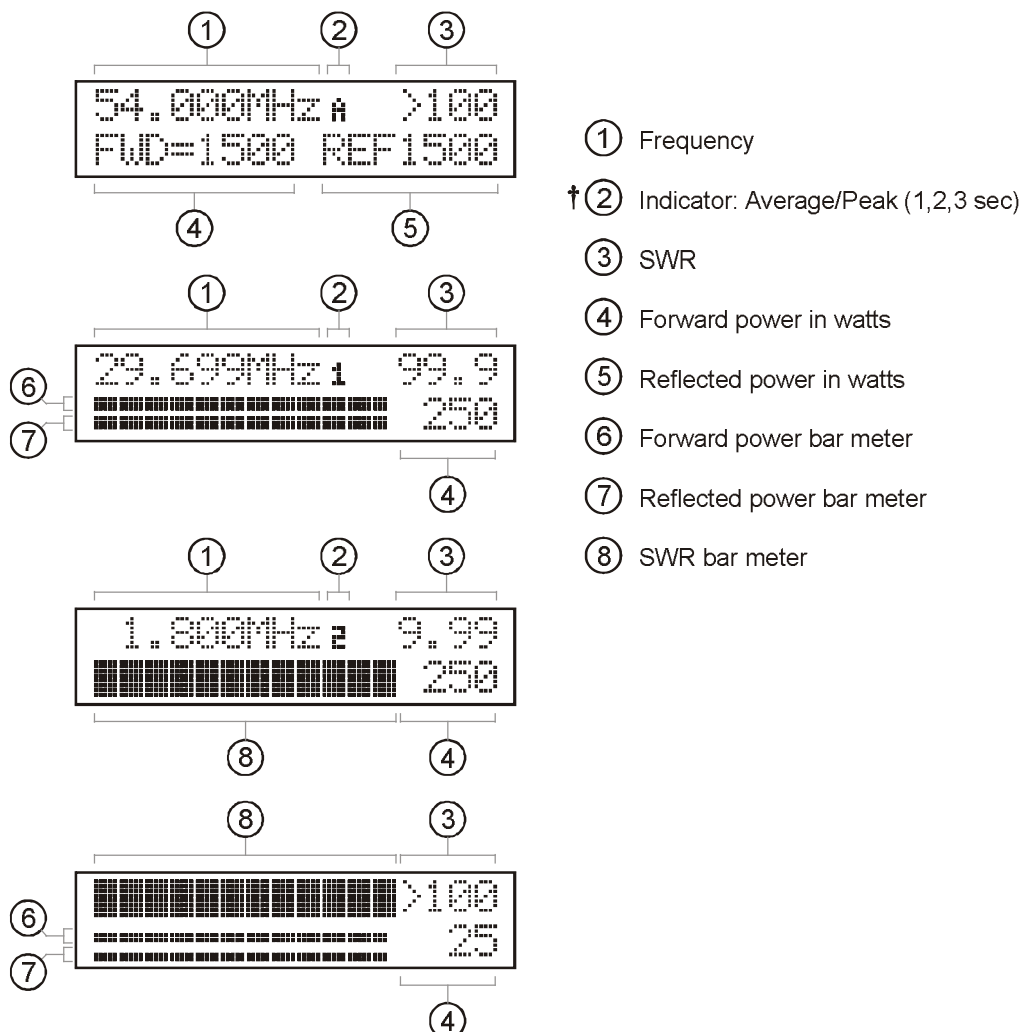

Figure 7. Main Mode Menu Display.
- **LCD Display:** A 2-line by 16-character alphanumeric display with backlight. It displays the unit's various menus and status. The display contrast can be adjusted by the LCD contrast control on the front panel. Below the display are the SWR and power bar meter scales. Refer to Figure 7 for descriptions of the various displayed information.
The main mode menus show various wattmeter settings and status. There are four main mode menus arranged in a “wrap-around” structure. When powered on, wattmeter operation starts with the main menu that was last used. Within each main menu, press the [MODE] button briefly to view the next main menu. Press and hold the [MODE] button for two seconds to enter the setup mode (see below). Refer to Figure 7 for details on the displayed information.